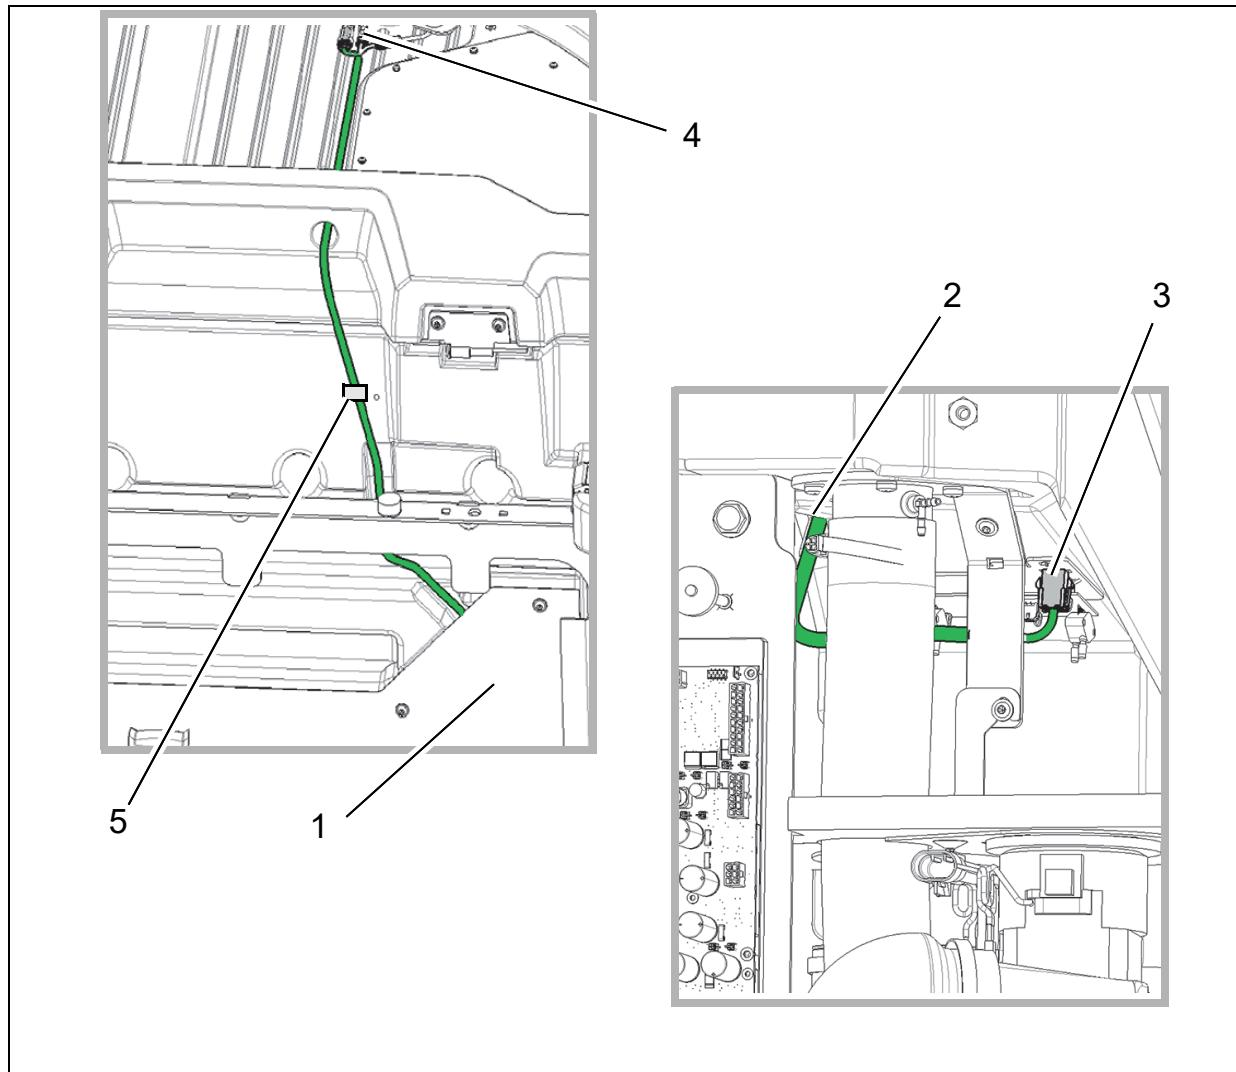

Fig. 2
2. Lead cable loom W74 according to the figure (shown in green) underneath the cover plate (Fig. 2/1) and all the way into the turbine compartment (Fig. 2/2).
3. Fit the 6-pin plug X66 from W74 in the turbine compartment onto the plug-in plate and connect it to cable loom W3 (Fig. 2/3).
4. Pull corrugated hose with cable loom W74 all the way to the end of the cover (Fig. 2/4) and fix it with corrugated hose holder (Fig. 2/5).